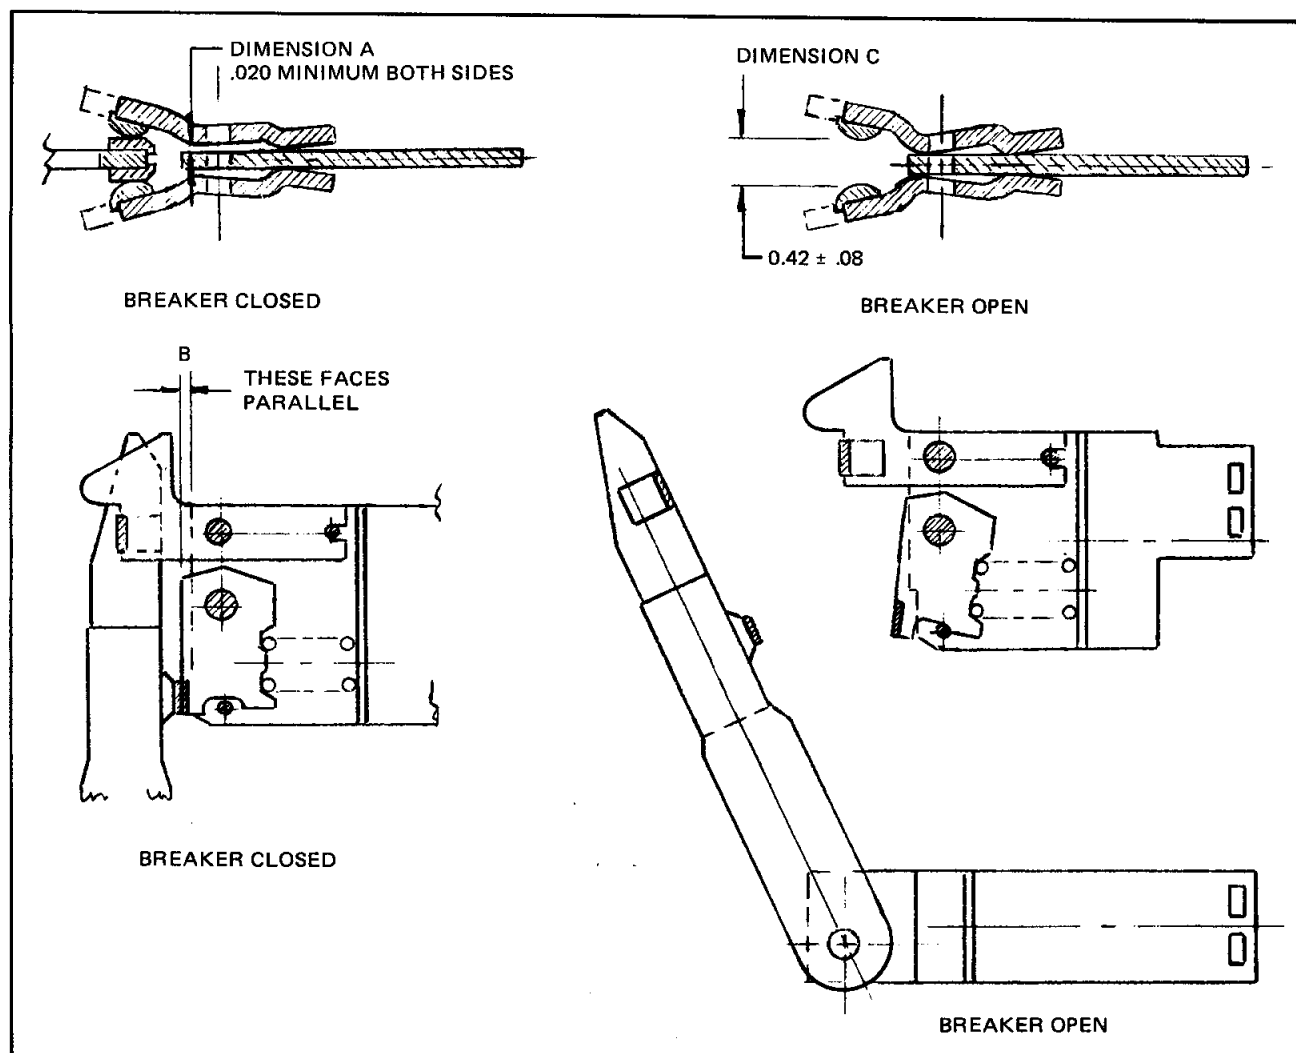

Fig. 84 *Contacts and their Adjustment, DS-206 Breaker*
With the breaker open, examine the contact tips of moving and stationary arcing and main contacts. If the tips are burned or worn more than .030", the contacts must be replaced. Also check the dimension (C) between the stationary arcing contacts (Figures 84 and 85). It should be $.42 \pm .08$. If this dimension is not maintained, the stationary arcing contacts must be replaced.
Close the breaker and check the contact engagement according to Figures 84 and 85. The main stationary contact fingers should be parallel (B) to the fixed contact cage. If not, adjust the contacts according to 12.2.3. Also check the dimension (A) between the stationary arcing contacts and the center section of the cage. If this dimension is not .02 inches or greater, the stationary arcing contacts should be replaced.